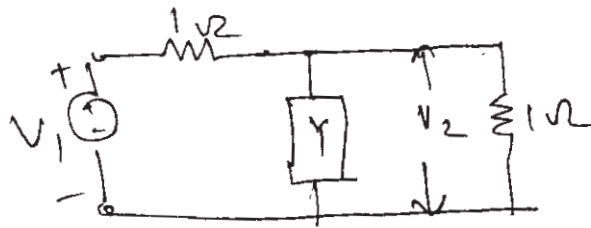

figure 3
- b) In the network shown in following figure 3, find voltage ratio transfer function in term of Y. Hence Find Y. Then synthesize Y(s) using Foster II form. [8]